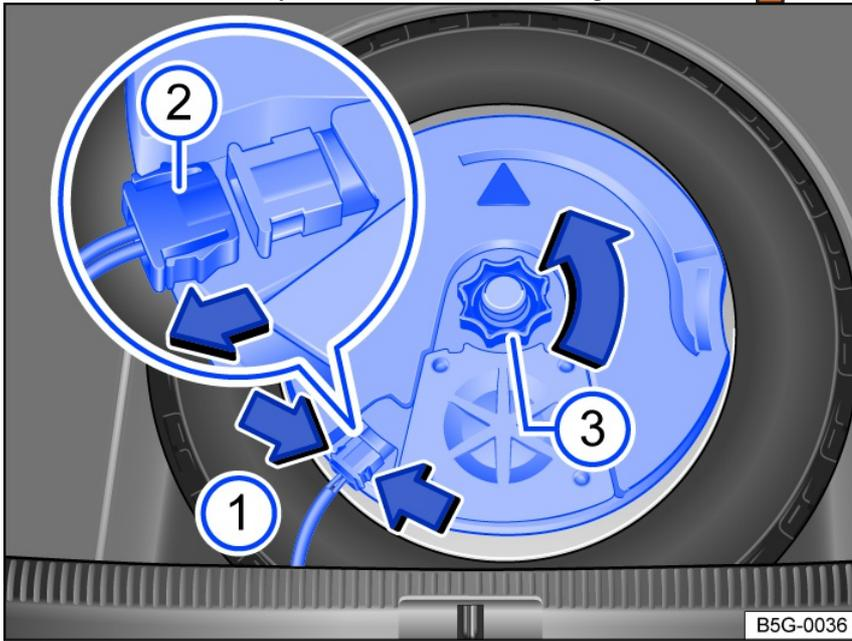

Fig. 208 In the luggage compartment: removing the subwoofer (version 1).
- To release the connector, press the *fig. 208* tabs together *fig. 208* (arrows ①).
- Remove the connector *fig. 208* in the direction of the arrow and set the removed wire to the side.
- Remove the handle *fig. 208* in the direction of the arrow.
- Connect the connector fig. 208 until it locks into place.
- Screw the handle fig. 208 into the thread in the opposite direction of the arrow until the subwoofer is securely attached.